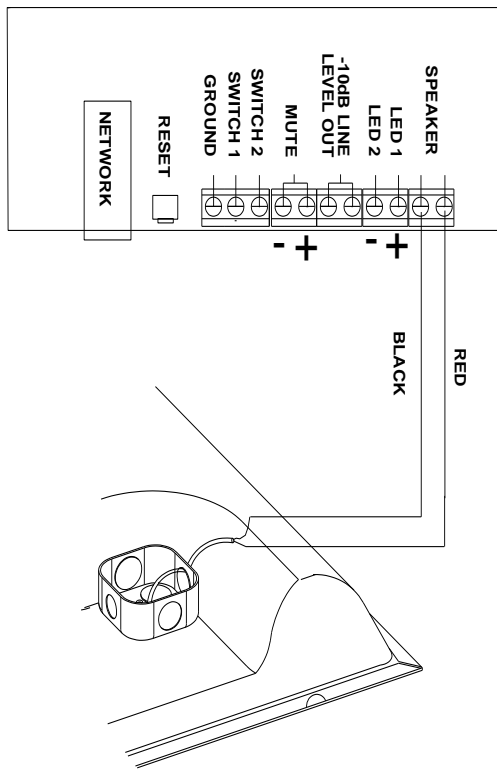

Figure 4. IP Clock/Speaker Connections
(B) Connect the wire assembly from the Lay-in Speaker to the Speaker screw connections on the clock circuit board. (Figure 4).